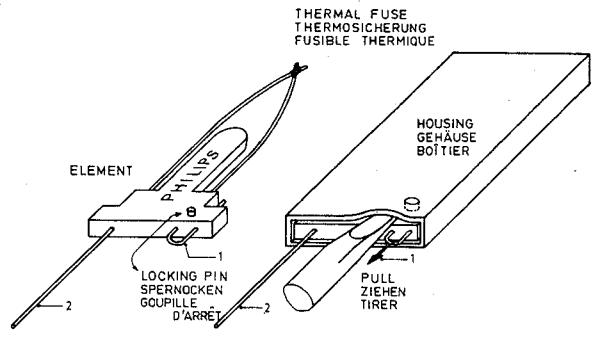

Fig. 2.9. Fuse replacement
- remove the fuse; to this end, bend the housing slightly to the outside so that the lockening pin can be disengaged (Fig. 2.9.).